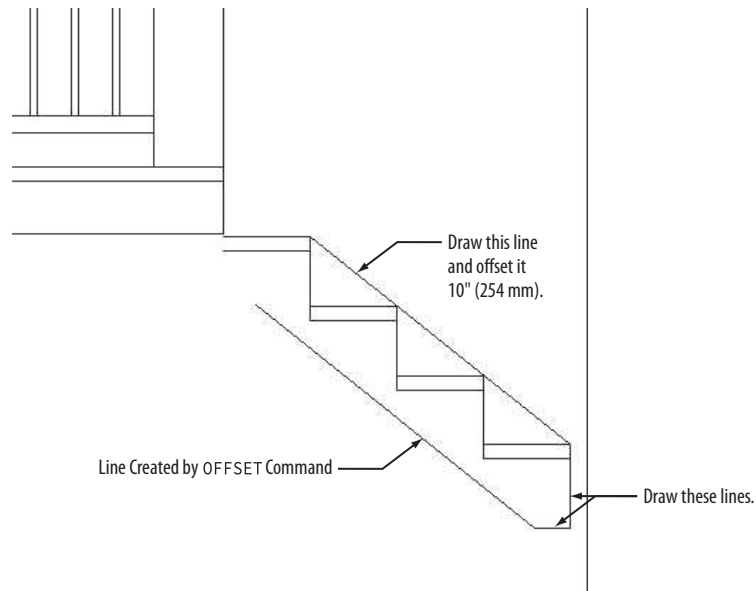

FIGURE 10.29: Drawing the stringer
7. Draw a line from the top-right corner of the first step to the top-right corner of the last step, and then offset this line 10" (254 mm) so that the copy appears below the stairs, as shown in Figure 10.29.
9. Fillet the bottom-left corner of the stringer with a radius of 0, as shown previously in Figure 10.29.